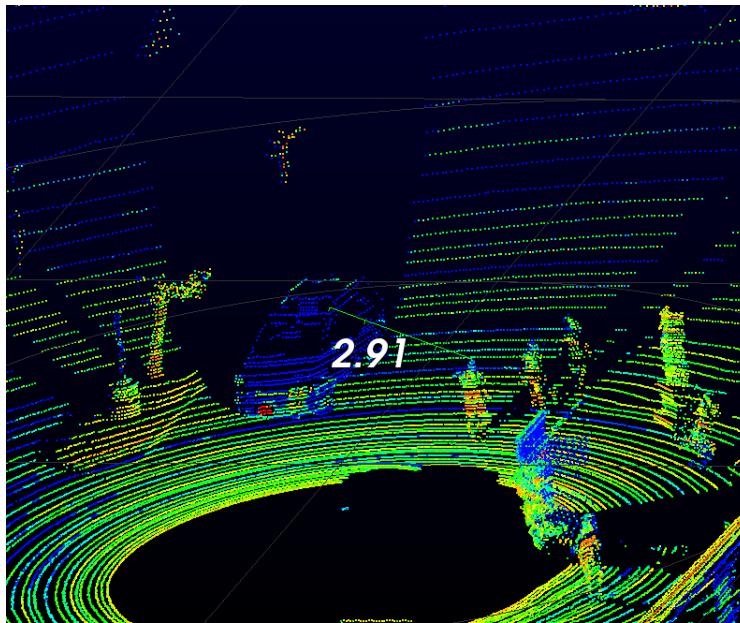

Figure 21: distance between car and pedestrian in meters
Ctrl + left button of the mouse to draw a line and measure its distance. This functionality only works when the orthogonal view is activated (see **figure 21**)
- 1- by clicking on the python icon in the “Basic Controls” bar (see **Figure 21**)
- 2- by clicking on the python icon in “Tools > Python Console” in the Menu Bar (see **Figure 21**)
Figure 21 : How to access the python console. Blue frame represents the Menu Bar. Green frame represents the “Basic Controls” bar. Red frames represent the accesses to the python console